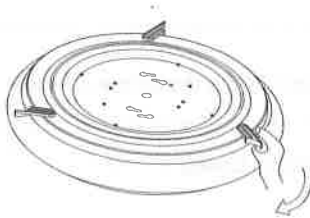

Fig.1
2. Open the 3 diffuser latches (figure 1).